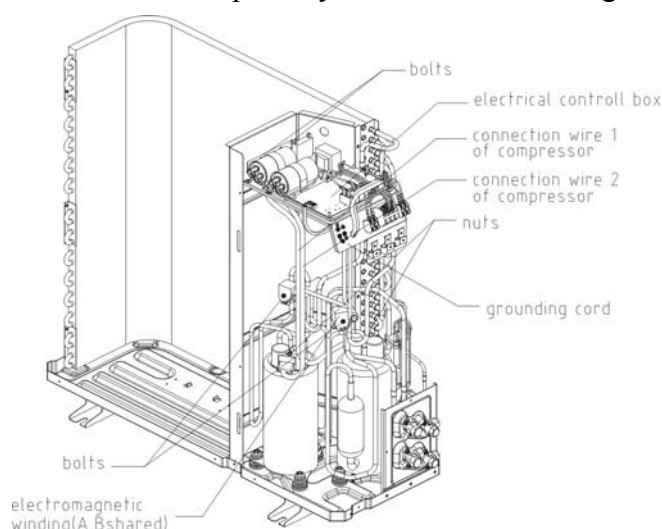

figure9
9. As in figure 9.dismantle the nuts of the junction box cover in fixed A. B system compressor. and tip-off connecting wire 1 and 2 from the compressor.
12. As in figure 9. dismantle the compressor earth wire (each one for A. B compressor) fixed on electrical unit holder.
13. As in figure 9.dismantle the two bolts on the fixed electrical holder.and take down the holder